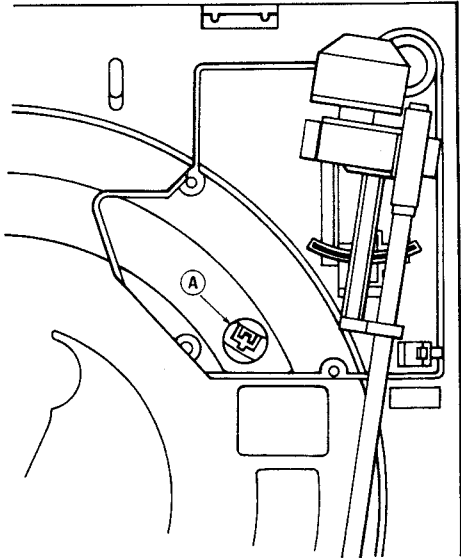

Fig. 4
1. When the pickup is set at the 30 cm read-in position with the turntable removed, the mechanical trimmer can be observed through the hole (A) in Fig. 4.